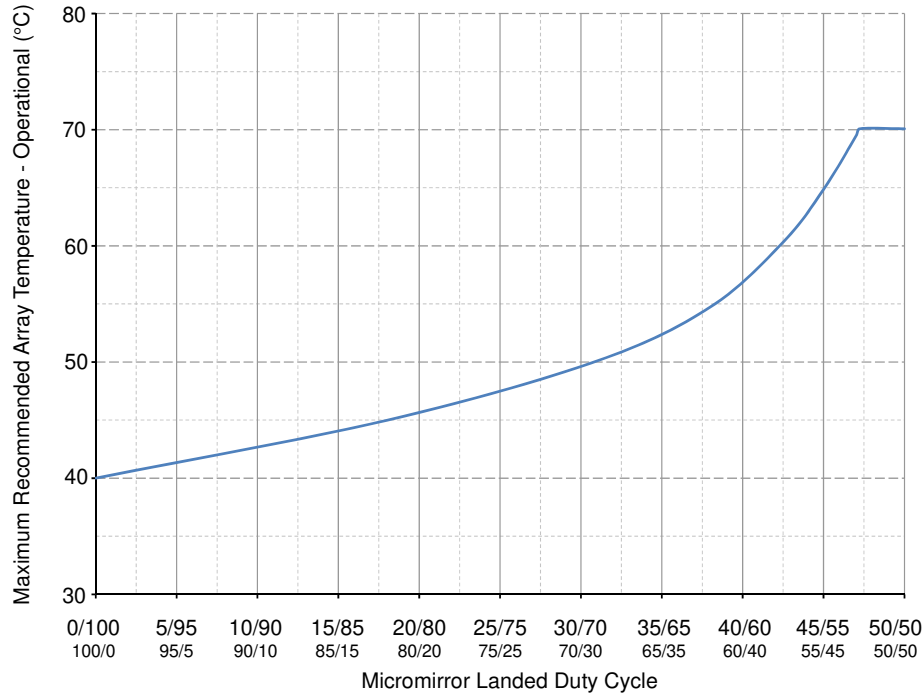

Figure 6-1. Max Recommended Array Temperature—Derating Curve
- (11) Per Figure 6-1, the maximum operational array temperature should be derated based on the micromirror landed duty cycle that the DMD experiences in the end application. Refer to Section 7.7 for a definition of micromirror landed duty cycle.
- (12) Long-term is defined as the usable life of the device.
- (13) The maximum optical power that can be incident on the DMD is limited by the maximum optical power density and the micromirror array temperature.
- (14) Short-term is the total cumulative time over the useful life of the device.